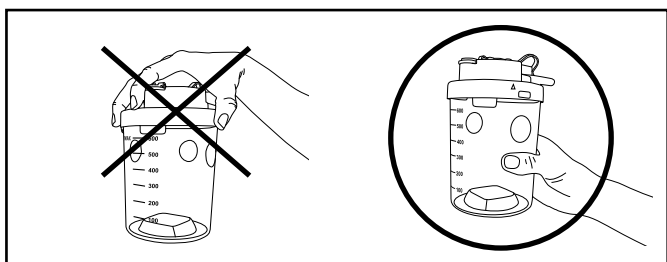

Figure 7
**Note: Never hold the container by the lid to carry it. The filled container can come off the lid and fall down to the floor (Figure 7). Use the secretion outlet to empty the secretion container.**